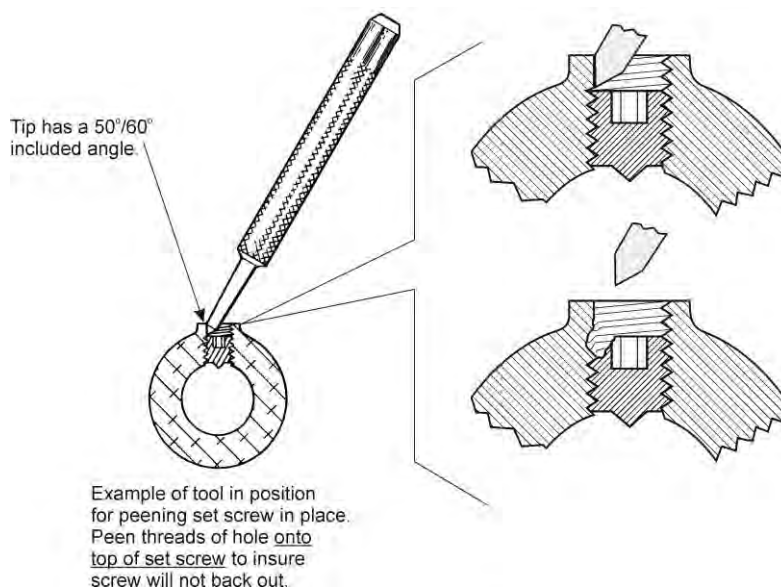

Figure 59
- (4) Use a smaller center punch (peening tool) with a 3/32-inch (2.38 mm) diameter at an approximate 50°/60° angle to peen the threads of the hole at the top of the taper above the set screw to prevent the set screw (as shown in Figure 59) from backing out.